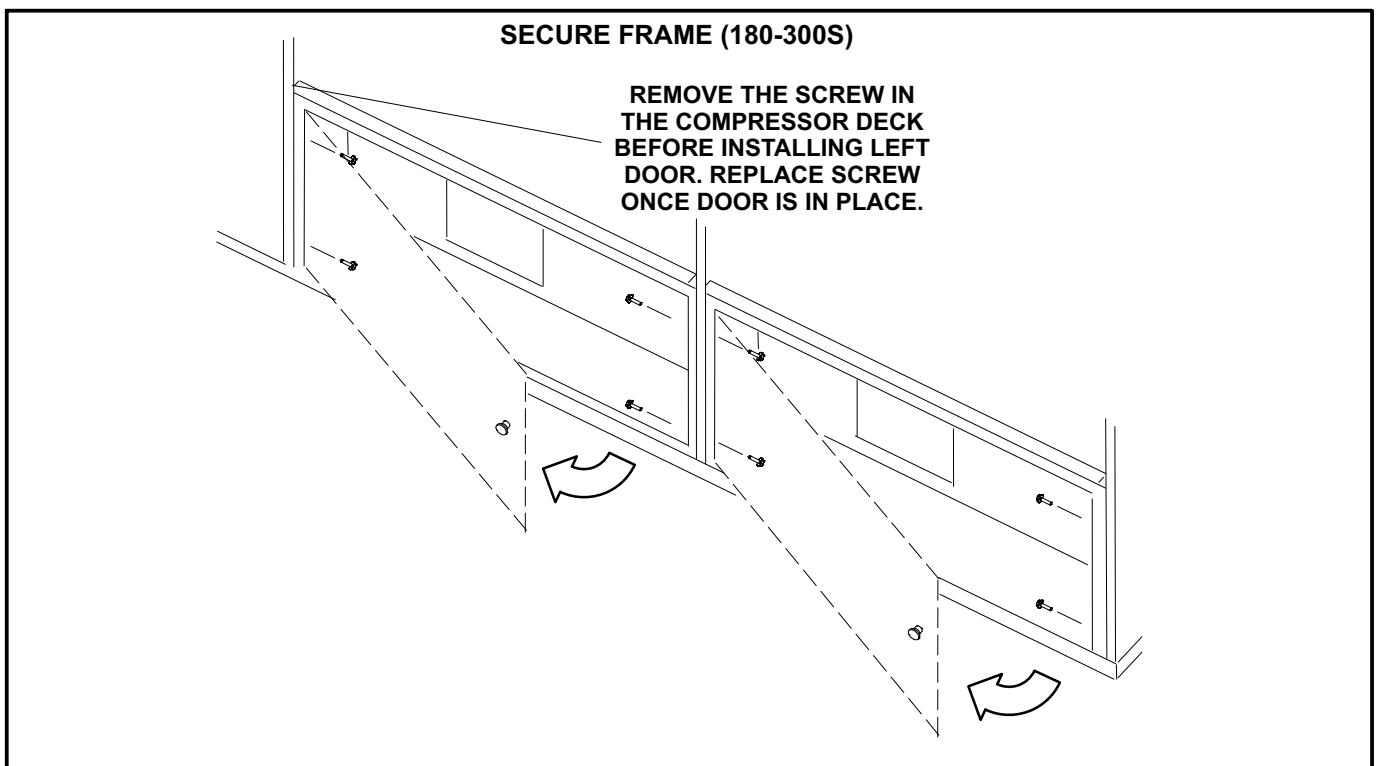

FIGURE 9
- 3- Remove the screw installed in the upper left corner of the left electric heat section. Position electric heat door assemblies in the electric heat openings as shown in figure 9. Make sure the doors open in the directions indicated.
- 4- Secure each door from the inside of the compartment as shown in figure 9. Secure with #10 sheet metal screws provided. Replace the screw which was removed in the previous step.